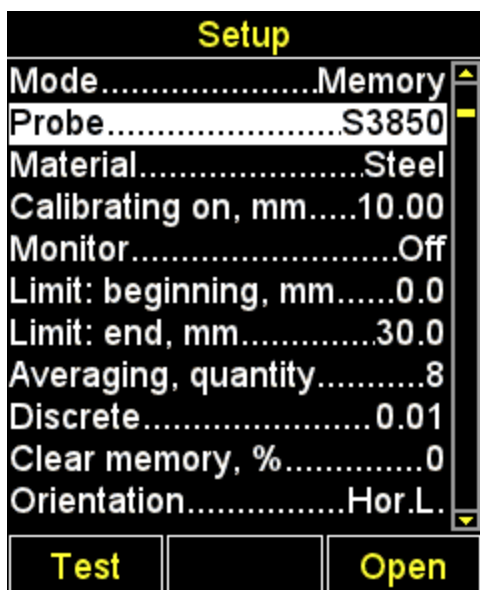

Figure 15
- By means of the keys   go to the Probe option and press the key **F3** (Open) or  to enter the transducers' (probes') library (Figure 15).